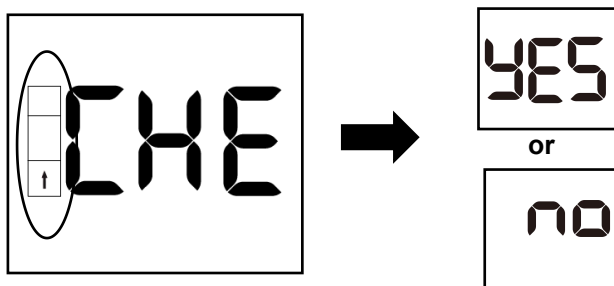

Fig. 12
- Press ⏻ button to enter this mode.(Ref Fig. 12)